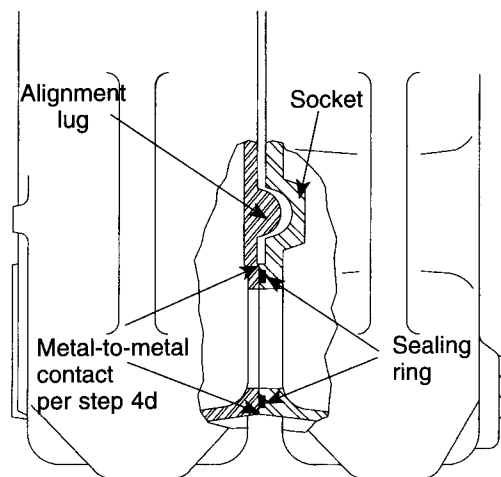

Figure 6
3. Position intermediate section so aligning lugs fit into sockets of next section. Refer to Figure 6.
4. Draw sections together until metal-to-metal contact is made around machined port openings (see Figure 6):
- d. Metal-to-metal contact will be achieved around port openings. See Figure 6. If gap does exist, it should be no greater than .032". Check with feeler gauge.